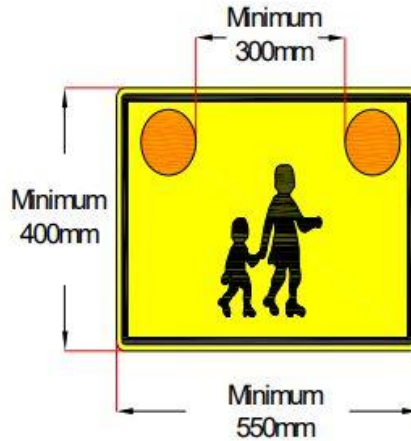

Figure 5 - Warning sign with warning lights
- if warning lights are on the warning sign, the minimum width and the height must be 550mm and 400mm respectively (*Figure 5*);
- The warning lights may be on the warning sign if the words or image on the signs are not obstructed (*Figure 5*).